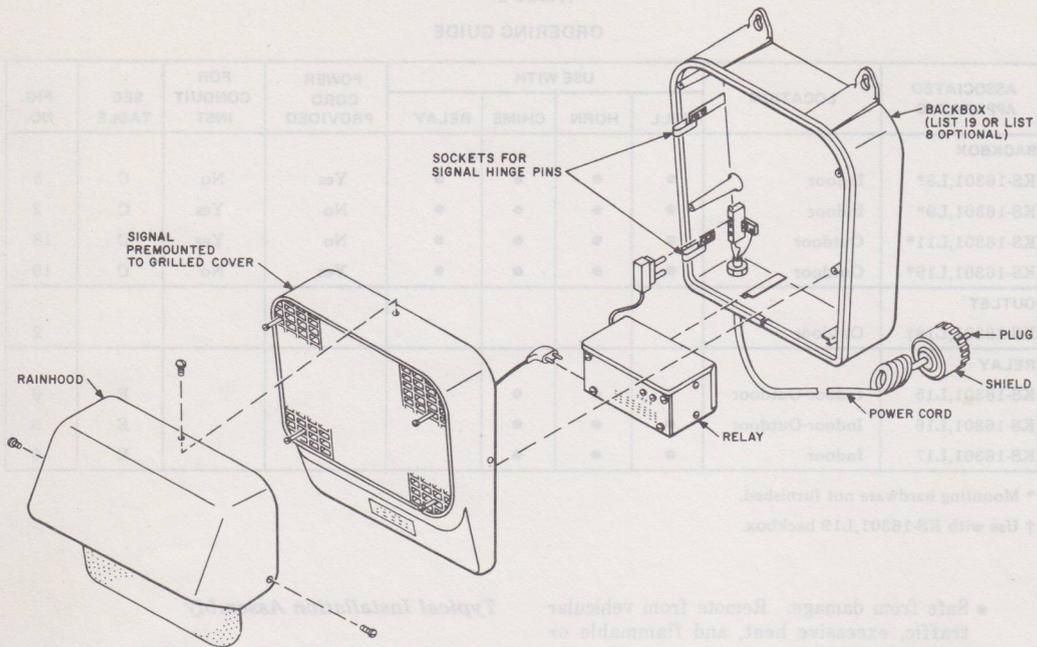

Fig. 1—Exploded View of Assembled Signal Using Relay
3.03 A typical signal (Fig. 1) includes a backbox, a signal premounted to a grilled cover, and a control relay.
- 3.07 Backbox (Fig. 1, 3, 5, 18, and 19)**
- Mount relay in the horizontal position on mounts provided in backbox (Fig. 1).
- Engage the two pins on front cover to form a hinge with the two sockets which emerge from backbox (Fig. 1).
- Fasten the signal to the backbox with four machine screws which are furnished (Fig. 1).
- Attach with furnished screws to the signal unit (Fig. 1).